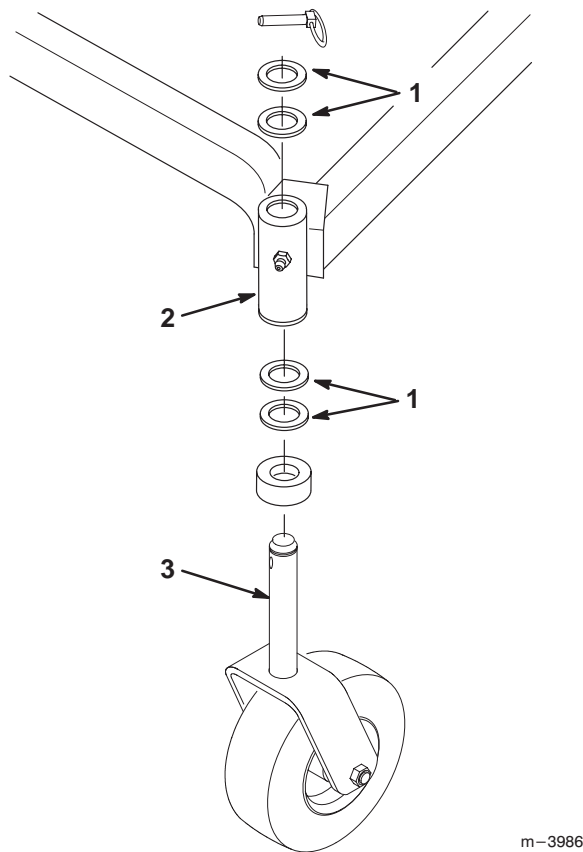

Figure 19
4. To change the front-to-rear pitch, move an equal number of thrust washers on both castor wheel forks. Move the thrust washers from the top of the carrier frame mounting tube to the bottom to raise the front of the mower. Move the thrust washers from the bottom of the mounting tube to the top to lower the front of the mower. (Fig. 19).
4. To change the side-to-side leveling, move the thrust washers on one castor wheel fork only. Move the thrust washers from the top of the carrier frame mounting tube to the bottom to raise the corresponding side of the mower. Move the thrust washers from the bottom of the mounting tube to the top to lower the corresponding side of the mower. (Fig. 19).